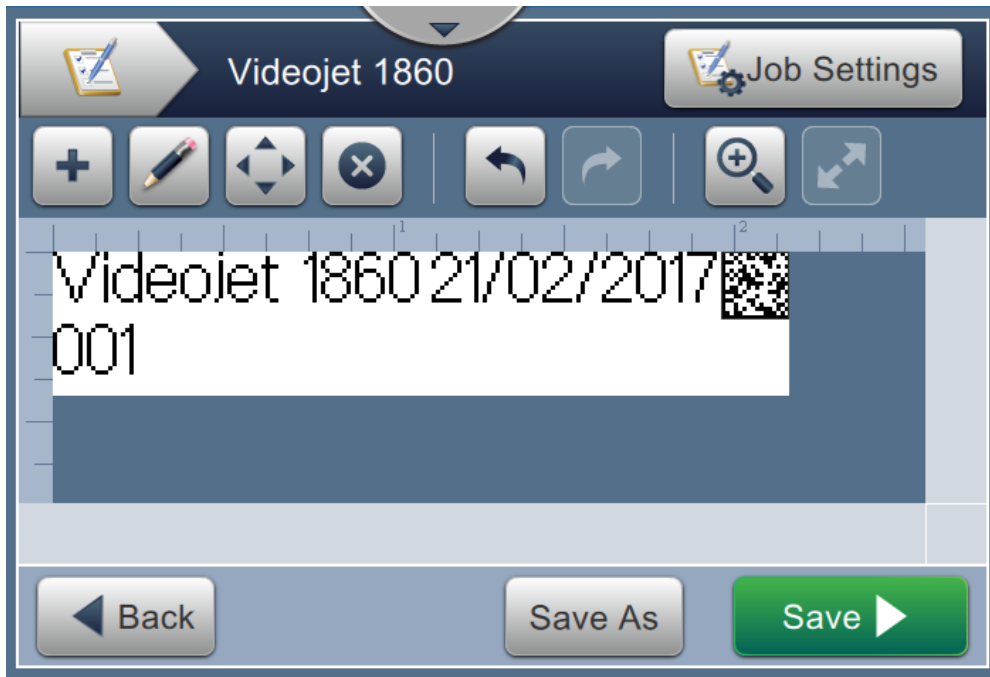

Figure 6-13: Job Editor Screen
10. Touch the  button to save the changes. The Job Editor screen opens as shown in the Figure 6-13.